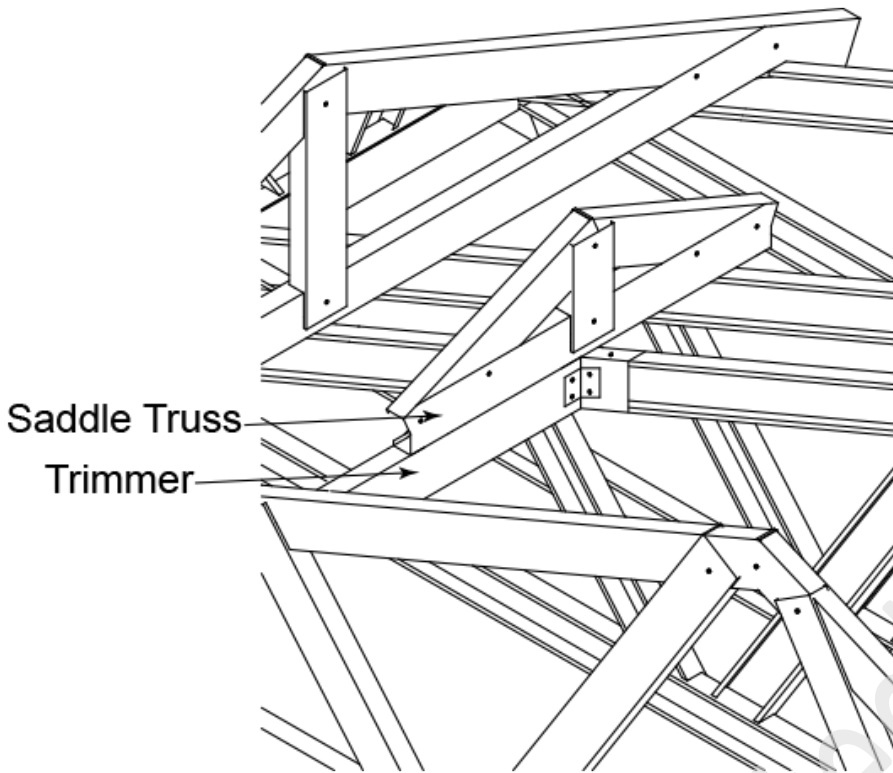

Figure 7.29b Saddle truss trimmer detail
**NOTE 1:** The smallest saddle truss will require a trimmer to be installed below it for extra support as shown in Fig. 7.29b.